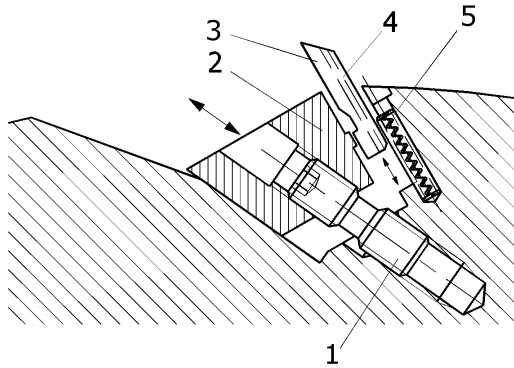

Fig.5
See Fig. 5.
1. Screw the set screw (1) without the wedge gib (2) with the Torx wrench about  $\frac{1}{2}$  turn until the threads engage.
4. Tighten the set screw, together with the wedge gib, until the position shown in Fig. 5, is reached.